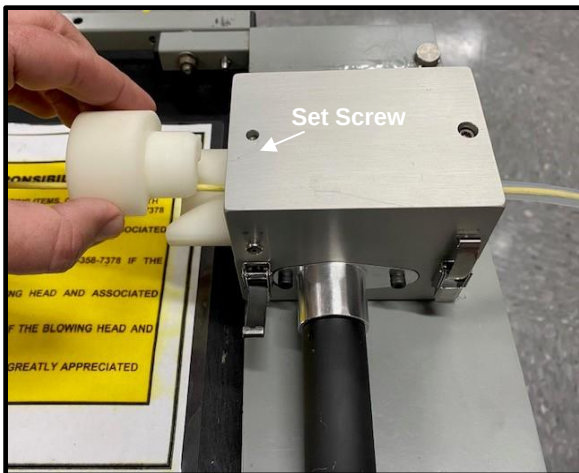

Figure 49
14.5.1 To adjust, use a 1/16" Allen wrench (Installer Provided) and turn the set screw clockwise (CW) to increase plunger tension or counter-clockwise (CCW) to decrease plunger tension on the Fiber Guides. **See Fig. 49**